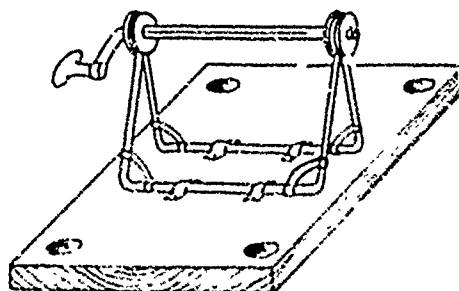

Figure 9-14. Mounting RL-39.
(1) Having trouble with the wire line to the FDC? The mortar platoon leader can use this method effectively: take the RL-39 and fasten it to a board about one and one-half inches thick, approximately twelve inches long and twelve inches wide. Drill holes as illustrated in Figure 9-14 at the four corners of the board.